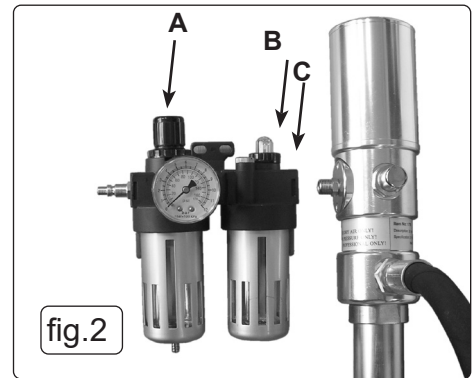

fig.2
4.1.1. Apply a small amount of liquid thread sealant onto the threads of the air inlet of the pump and attach the air regulator/lubricator (fig.2).